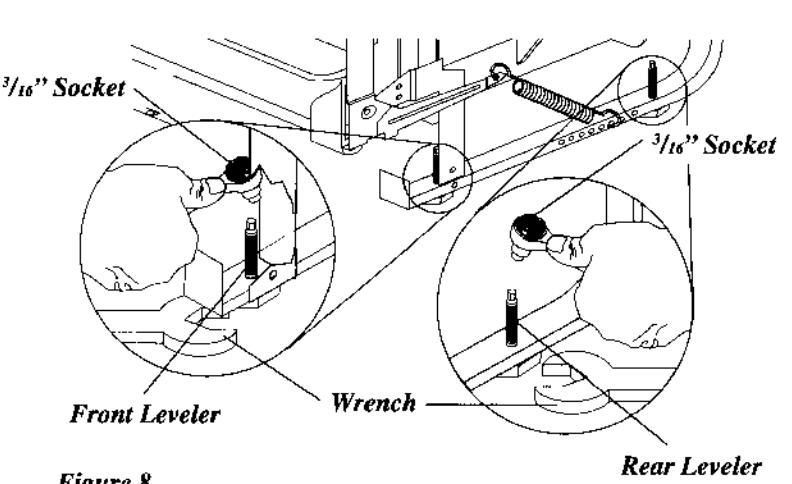

Figure 8
- Loosen the front and rear leveling legs by turning counterclockwise. Refer to chart for number of turns. See Figure 8. Front levelers should allow 1/4" below underside of countertop.